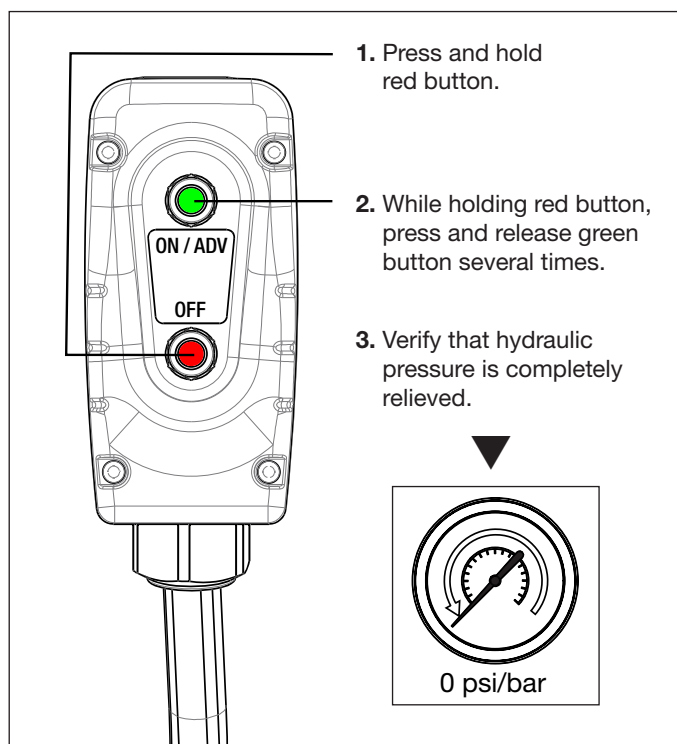

Figure 8: Relieving Hydraulic Pressure
- Press and hold the red OFF button while pressing and releasing the green ON/ADV button several times. See Figure 8.
- Verify that the hydraulic pressure gauge indicates zero (0) psi/bar. Then, release the red OFF button.